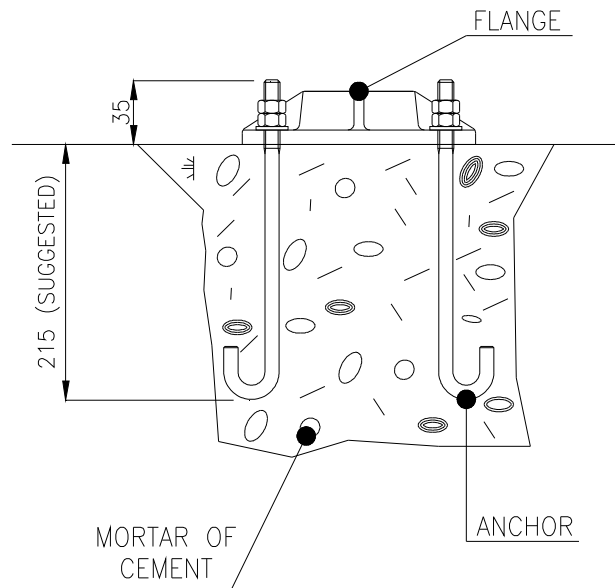

Figure 3 – Flange installation with anchor bolts
- e) It is recommended that the anchor bolts, used for the flange anchoring, are mounted after the completion of the concrete foundation. The anchor bolts have to be walled accurately as shown in Figure 3 and in manner to assure the parallelism of the centreline marked on the flange and the sign centreline.